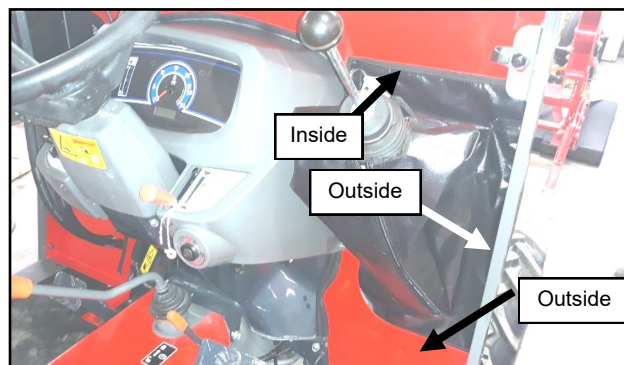

Fig. 20.3 (Set The Loader Control Filler Into Place)
- 20.3** Slide the filler over the loader control lever and set into place. See Figure 20.3.